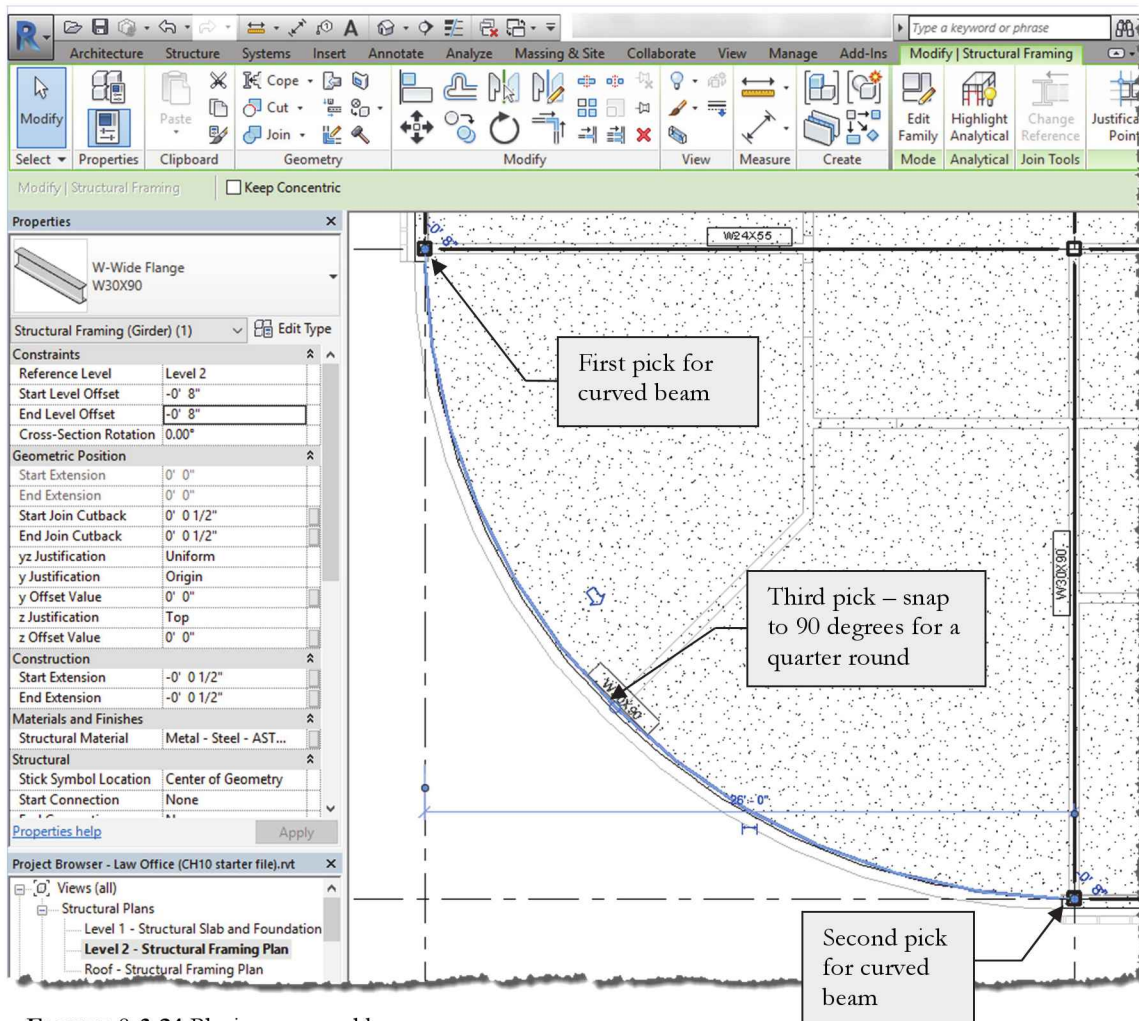

FIGURE 8-3.24 Placing a curved beam
40. Place the curved beam; see Figure 8-3.24.